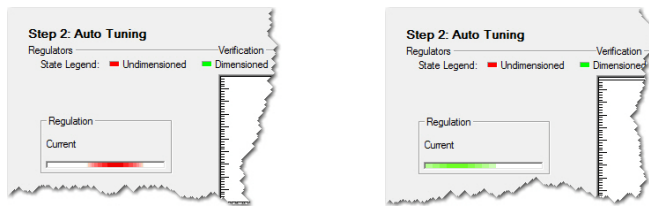

Figure 3-34 Regulation Tuning – Identification (left) / Verification (right)
- First, control parameters will be identified – during this process, the motor shaft will oscillate, the respective red status bar will be moving (→Figure 3-34, left).
- Then, identified control parameters will be verified by evaluating their step response – during this process, the motor shaft will rotate, the respective green status bar will be moving (→Figure 3-34, right).